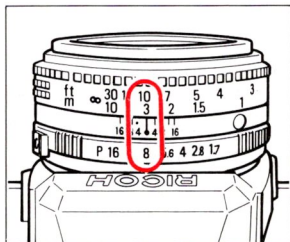

Fig. 66
1. Attach the R60 filter and focus on the subject. Read the distance from the lens barrel. (Fig. 66)